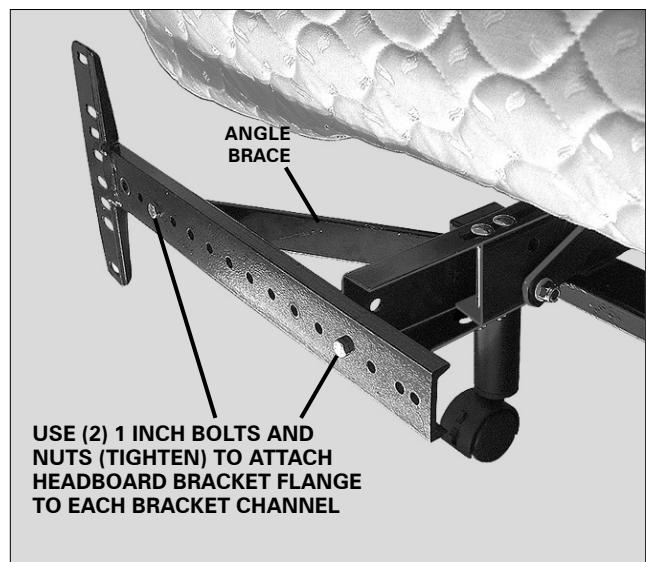

FIGURE 10: Headboard bracket flange installation (attach one flange to each of the headboard bracket channels).
- Attach one headboard bracket flange to one of the bracket channels with (2) bolts/nuts. (FIGURE 10) Tighten bolts. Repeat procedure to attach the other headboard bracket flange.*